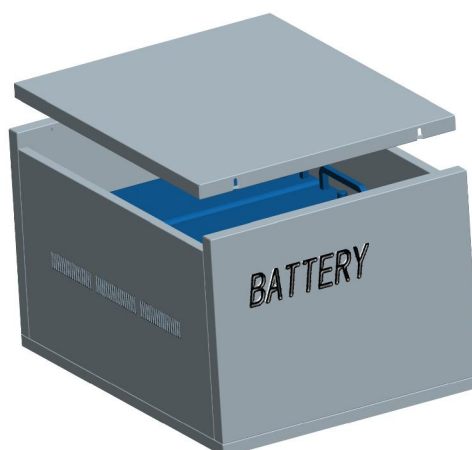

Fig. 4
Step 4. cover the top cover, as shown in Fig.4.